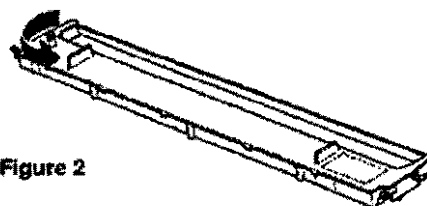

Figure 2
4. Unwrap the new ribbon and turn the ribbon-tightening knob (left end of cartridge) in the direction of the arrow to remove the excess slack (Figure 2).